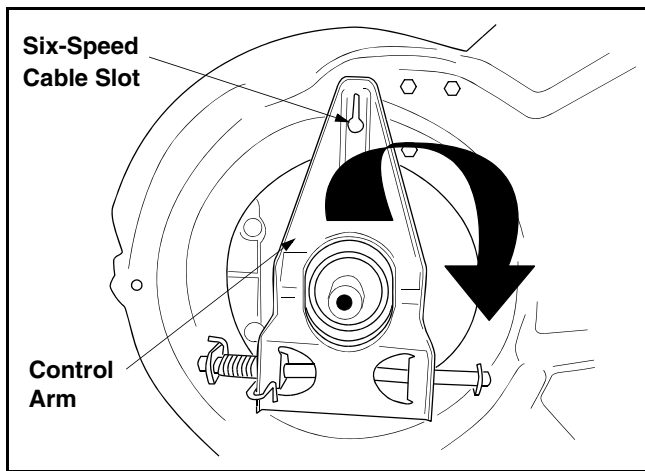

Figure 22
- Pivot the control arm back to its original position and reinstall the six-speed cable into the slot. See Figure 22.